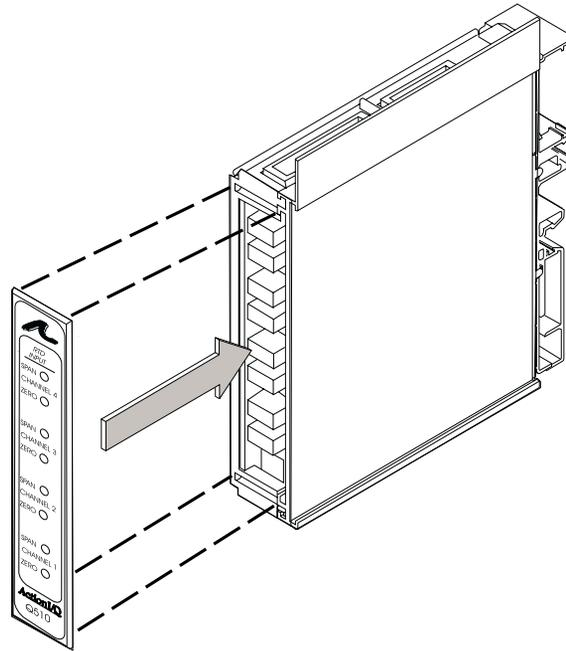

Figure 3: ActionIQ Module and Removable Faceplate
5. To remove a module from a row, first detach the faceplate of the unit to the right of the unit to be removed (see figure 3). Then remove the terminal connectors by gently pulling them away from the module. Once the terminals are clear, use a blade screw driver to release the foot tabs from the base of the module while pulling the unit gently free (see Figure 4). Replace the faceplate of the adjacent unit.